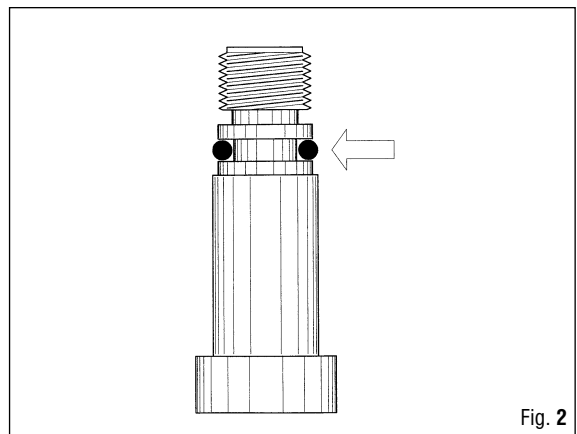

Fig. 2
7. PLACE THE O-RING (71) ON THE CONNECTOR BODY (48) (Fig. 2).
8. INSERT THE CONNECTOR BODY (48) IN THE WHEEL (49).
9. WITH A 5 mm HEX WRENCH (B-4) SCREW THE CONNECTOR BODY (48) TO THE FIRST STAGE BODY.